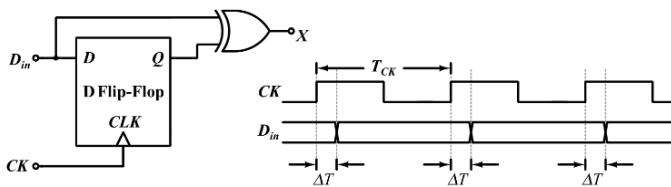

Fig. 5.31
32. In the circuit shown below in Fig. 5.31 a positive edge-triggered D flip-flop is used for sampling input data using clock CK. The XOR gate outputs 3.3 volts for logic HIGH and 0 volts for logic LOW levels. The data bit and clock periods are equal and the value of  $\Delta T/T_{ck} = 0.15$ , where the parameters  $\Delta T$  and  $T_{ck}$  are shown in the figure. Assume that the Flip and the XOR gate are ideal.